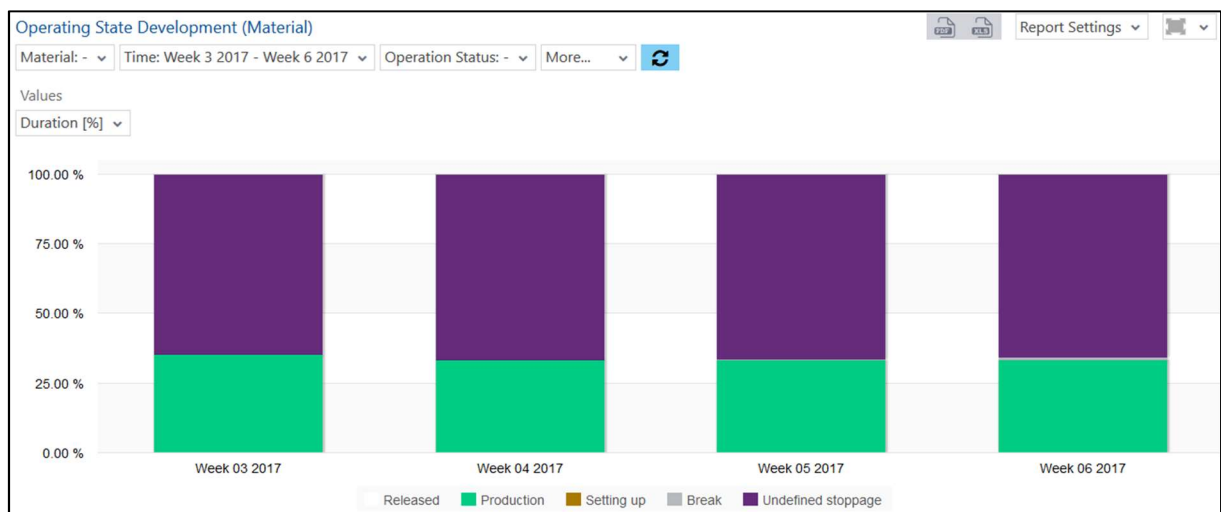

Fig. 69: Operating State Development (Material) as a column chart
- Operating State Development (Material) as a column chart (Fig. 69):